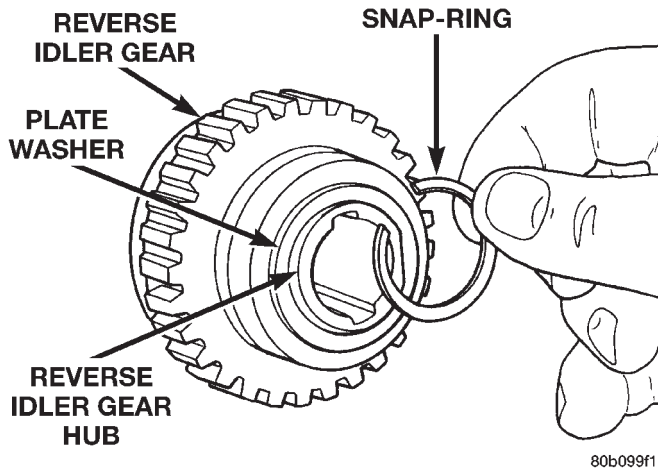

Fig. 115 Remove Reverse Idler Gear Snap-ring
(1) Remove snap-ring holding the reverse idler gear onto the reverse idler gear hub/race (Fig. 115).